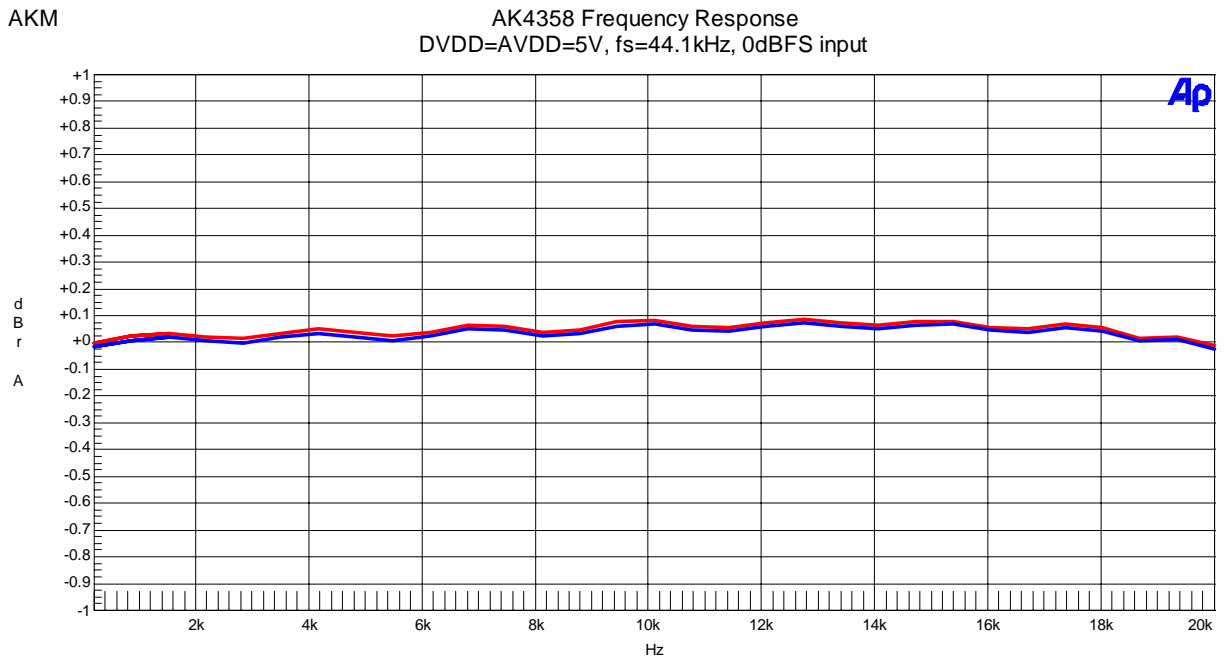

Figure 8. Frequency Response (0dBFS input)
- Figure 8. Frequency Response (0dBFS input)